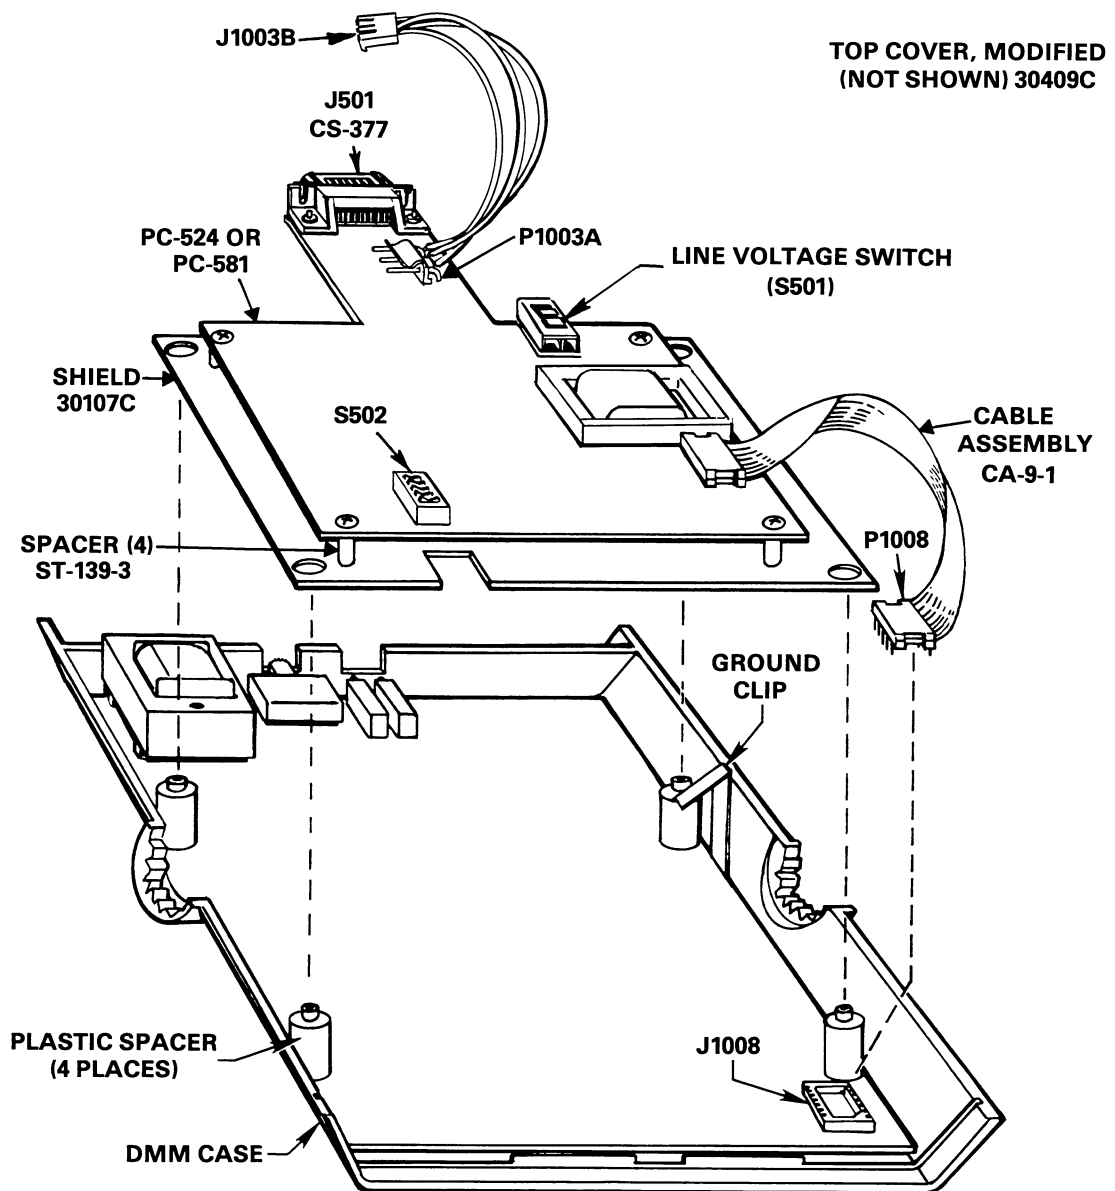

Figure 5-1. Installation Of Model 1793
The Model 1793 is designed to be installed in the following models: 177, 179, 179-20A, 179A and 480. The unit is line operated from its own power supply. Note that, the Model 1788 battery pack and the Model 1792 BCD interface cannot be used when the Model 1793 is installed. Refer to Figure 5-1 and install the Model 1793 using the following procedures:
7. Connect P1008 to its mating plug on the mother board of the instrument (J1002 on the Model 480, J1008 on all others) as shown in Figure 5-1. Be sure to orient the ribbon cable as shown.
Electrical parts for the Model 1793/6423 are listed in Table 6-1. Mechanical parts are shown in Figures 5-1 and 5-2.